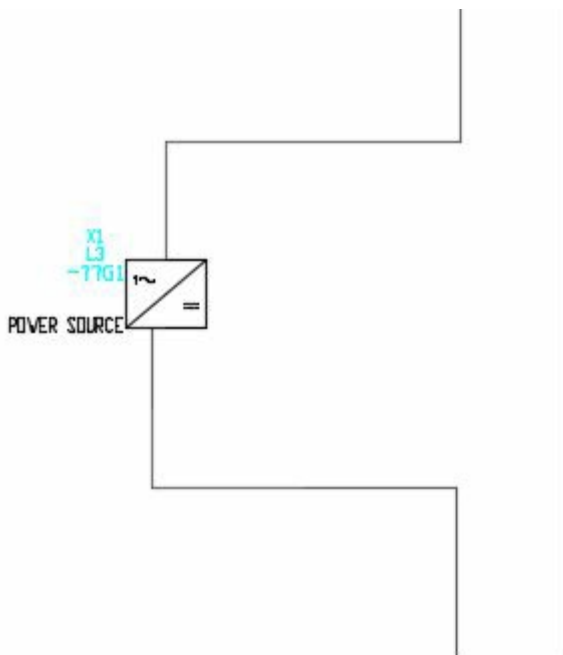

Figure-19. Power source placed
- Click on the **OK** button from the dialog box. The power source will be placed; refer to Figure-19.